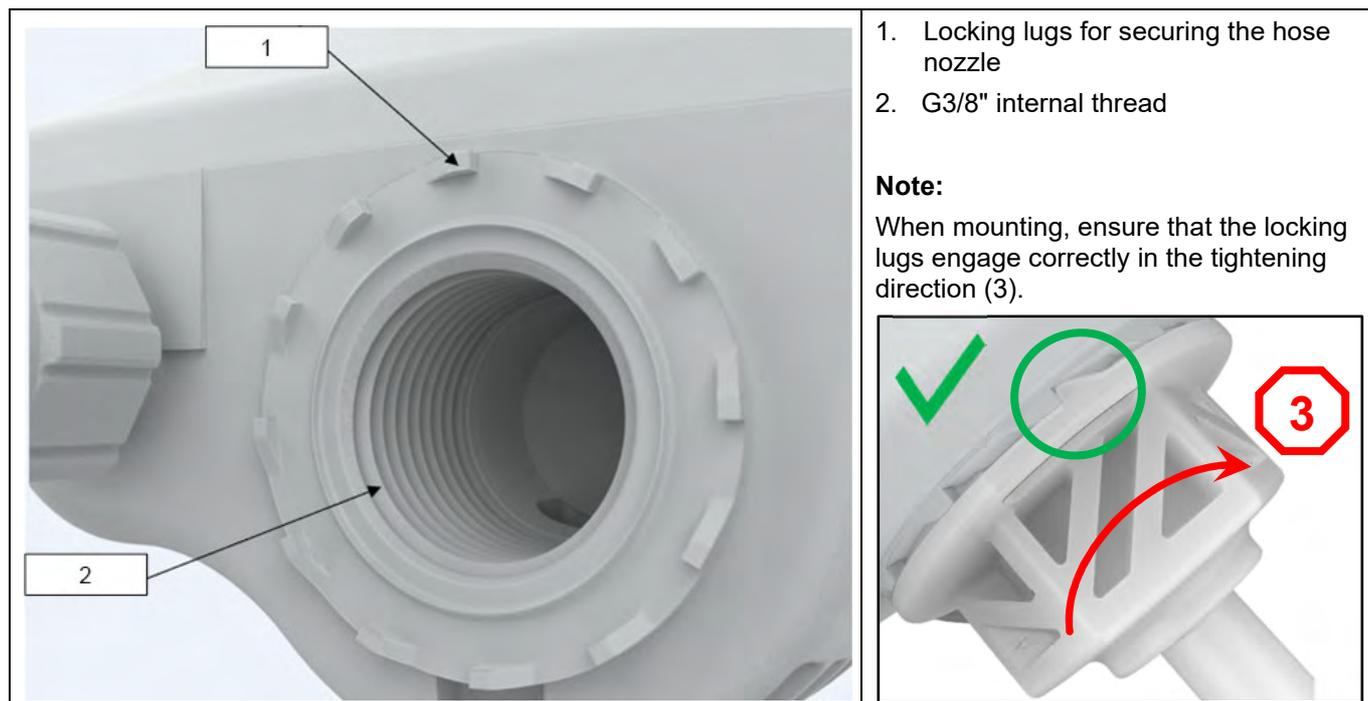

Figure 6
Optionally, a hose connection material available on the market can be fitted to the 3/8" thread (Figure 6, item 2) of the head section.
Original elobau hose connectors are available for the G3/8" thread (Figure 6, item 2). These can be acquired separately as accessories in different sizes. (See chapter 8 Accessories and spare parts list).
- ▶ The hose connector must engage as shown in Figure 6. If this is not the case, continue to screw in the hose connector in the tightening direction until the hose connector visibly engages with the next locking lug on the housing.
Hose connection material from other suppliers can be fitted in the G3/8" thread (Figure 6, item 2). A prerequisite is removal of the elobau hose connector. Read the procedure for this in the chapter 5.4.2 Assembly and disassembly of the hose connector.